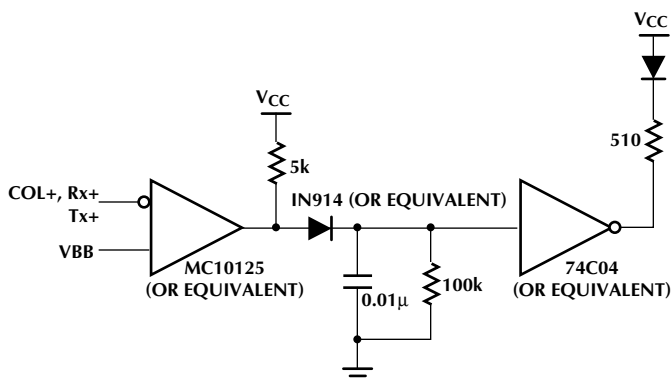

Figure 6.
2. The $\overline{\text{JAB}}$, $\overline{\text{CLSN}}$, $\overline{\text{RCV}}$ and $\overline{\text{XMT}}$ LED pins on the ML4663/ML4668 have been removed. LEDs showing transmit, receive and collision activity can be added externally. See Figure 6.